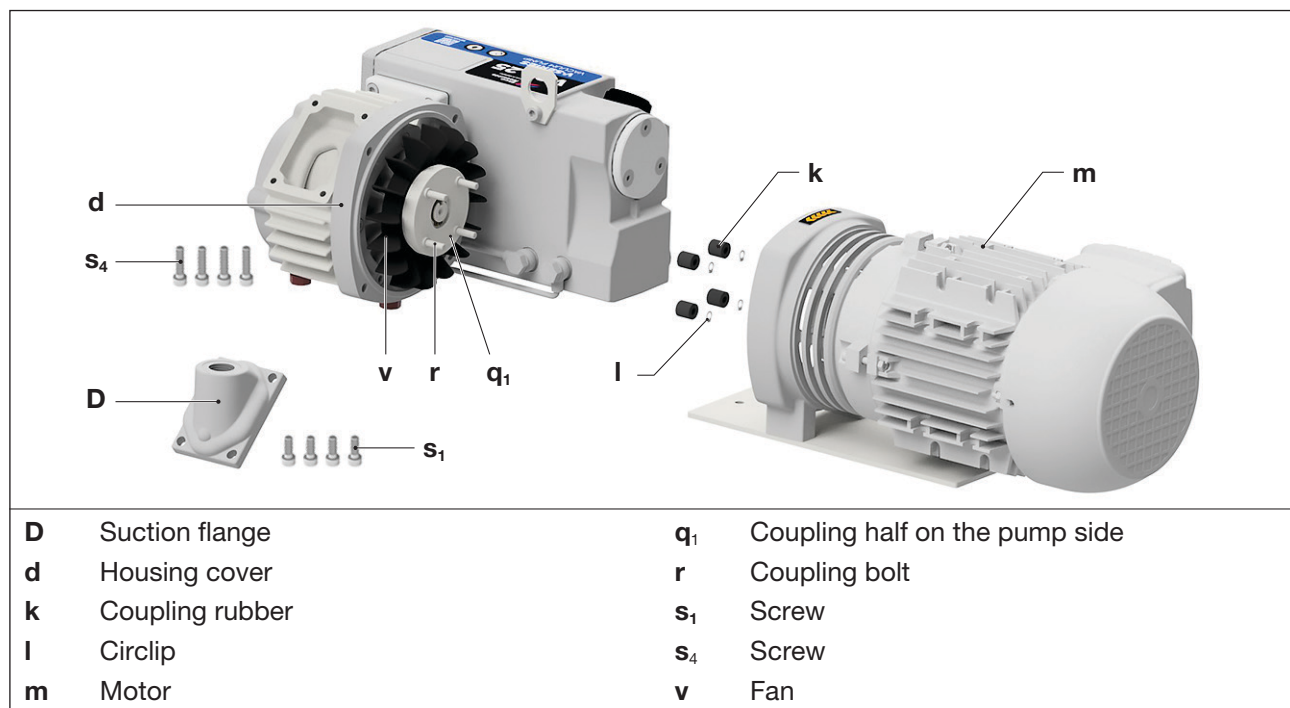

Fig. 8 Coupling
The coupling rubbers (Fig. 8/k) are subject to wear and must be checked regularly (at least once a year). Worn coupling rubbers are noticeable by a hammering noise when the pump is started.
- Undo the screws (Fig. 8/s₁) on the suction flange (Fig. 8/D) and remove the suction flange from the pump.
- Undo the screws (Fig. 8/s₄) on the housing cover (Fig. 8/d).
- Pull the pump with the coupling half on the pump side (Fig. 8/q₁) and the fan (Fig. 8/v) axially off the motor (Fig. 8/m).
- Check the coupling rubbers (Fig. 8/k) for damage and wear and replace if necessary.
To do this, remove the circlips (Fig. 8/l) and the worn coupling rubbers (Fig. 8/k) from the coupling bolts (Fig. 8/r) and slide new coupling rubbers with the circlips onto the coupling bolts.
- Reassemble the pump with the coupling half on the pump side and the fan to the motor and secure it with the four screws (Fig. 8/s₄). Tightening torque: 10 Nm
- Reassemble the suction flange to the housing and secure it with the four screws (Fig. 8/s₁). Tightening torque: 10 Nm